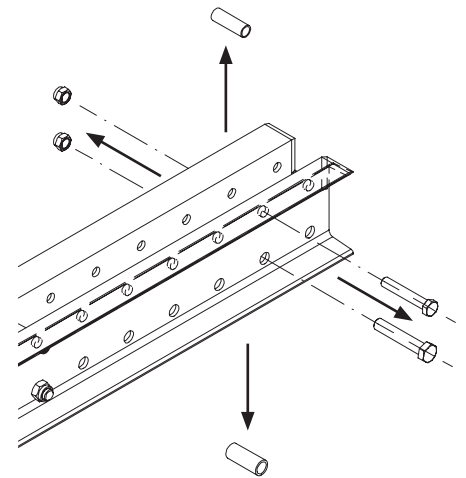

Fig. B2.01b
5. Remove external spacers.(Fig. B2.01b)
- After the bolts have been removed, six rows of holes must then be free up to the next pair of bolts.(Fig. B2.01b)